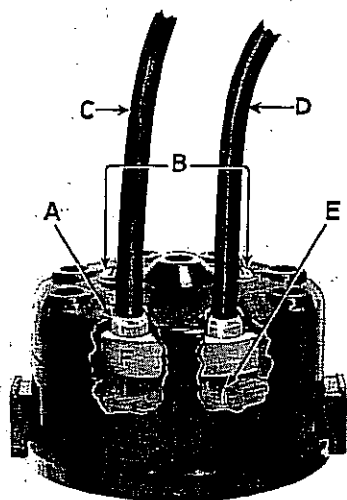

Figure 1
8. Transfer remaining plug wires from the old cap to the new cap in the same order. (Please refer to Figure 1 for proper wiring of the cap.)
(Please refer to Figure 1)
5. In Figure 1, wire "C" is engaged properly. Wire "D" is wrong.
1. Remove the 2 screws at the cap cover. (See Figure 1.)